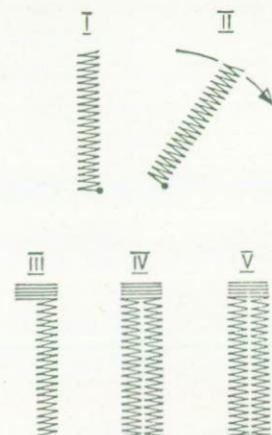

Fig. 58
- Bring lever « C » (Fig. 1) on 1.5 and make first row of stitches (Fig. 58, Operation I) going as far as to reach the limit marked by the guide. Leave needle in fabric.
- Raise presser foot and turn fabric half a turn around needle (Fig. 58, Operation II). Lower presser foot.
- Make first bar tack with 3 or 4 stitches (Fig. 58, Operation III) and stop sewing with needle out of fabric.
- Bring lever « C » on 1.5 and make second row of stitches as long as the first (Fig. 58, Operation IV). Stop sewing with needle out of the fabric.
- Bring lever « C » on 3 and make second bar tack (Fig. 58, Operation V).